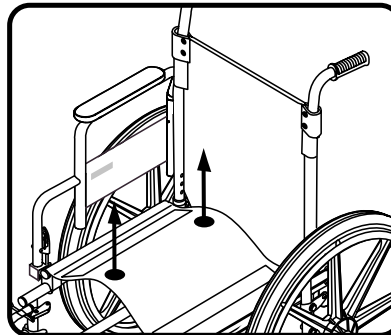

Figure 5. Folding the Pride Stylus
3. Grasp the seat base by the centre at the front and at the back. See figure 5.